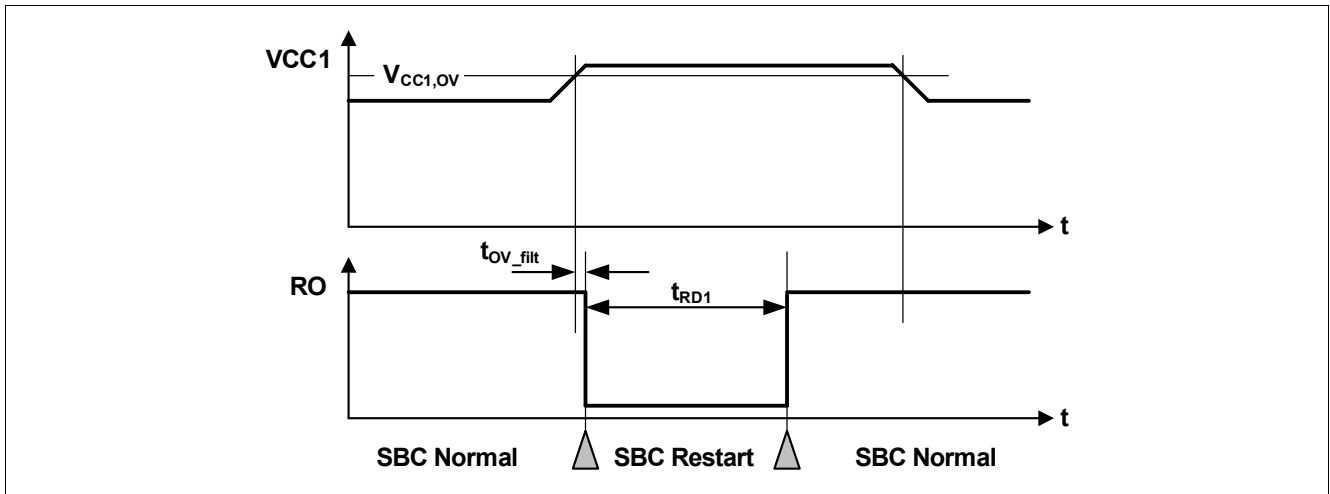

Figure 48 VCC1 Over Voltage Timing Diagram
- If the bit **VCC1\_OV\_RST** is set and **CFGP** = '1', then SBC Restart Mode is entered. The FOx outputs are activated. After the reset delay time ( $t_{RD1}$ ), the SBC Restart Mode is left and SBC Normal Mode is resumed even if the VCC1 over voltage event is still present (see also Figure 48). The **VCC1\_OV\_RST** bit is cleared automatically;